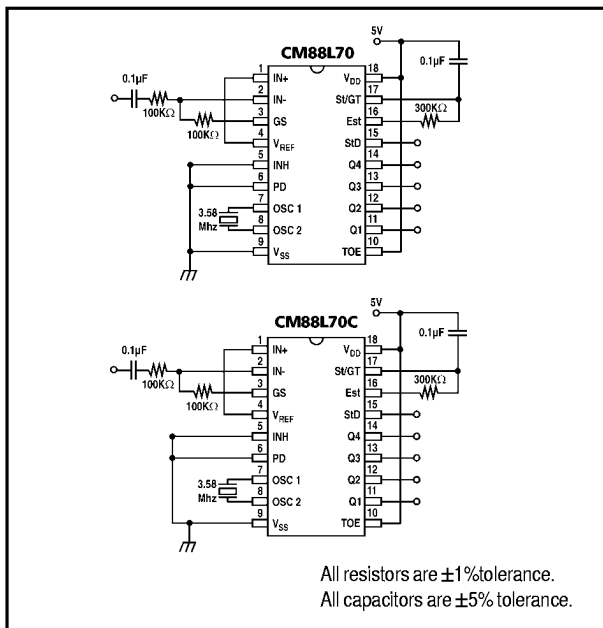

Figure 1. Single Ended Input Configuration
AC Characteristics: All voltages referenced to V_{SS} , $V_{DD}=3.0V + 20\% / -10\%$, $T_A=-40^{\circ}C$ to $+85^{\circ}C$, $f_{CLK}=3.579545$ MHz using test circuit (Fig. 1) unless otherwise noted.
14. Referenced to Figure 1. Input DTMF tone level at -28 dBm.
The value of t_{DP} is a parameter of the device and t_{REC} is the minimum signal duration to be recognized by the receiver. A value for C of 0.1 μ F is recommended for most applications, leaving R to be selected by the designer. For example, a suitable value of R for a t_{REC} of 40 milliseconds would be 300K. A typical circuit using this steering configuration is shown in Figure 1. The timing requirements for most telecommunication applications are satisfied with this circuit. Different steering arrangements may be used to select independently the guardtimes for tone-present (t_{GTP}) and tone absent (t_{GTA}). This may be necessary to meet system specifications which place both accept and reject limits on both tone duration and interdigit pause.
In a single-ended configuration, the input pins are connected as shown in Figure 1, with the op-amp connected for unity gain and V_{REF} biasing the input at $\frac{1}{2} V_{DD}$. Figure 6 shows the differential configuration, which permits the adjustment of gain with the feedback resistor R5.